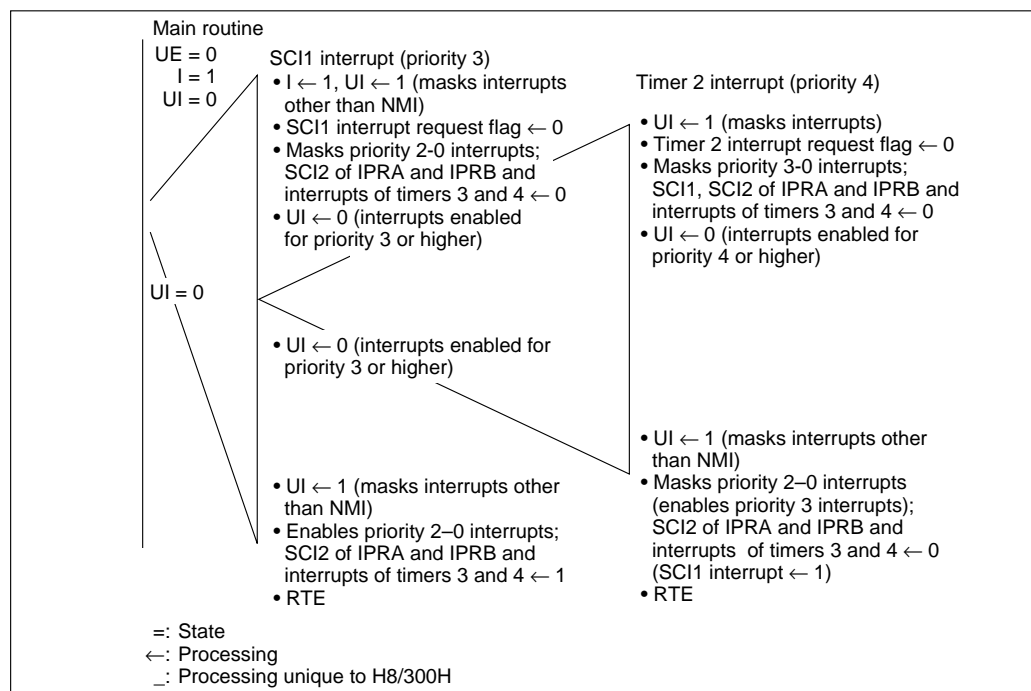

Figure 1.5 Processing Procedures
2. Figure 1.5 shows the processing procedures when the interrupt priorities set by the user are as shown in table 1.4.